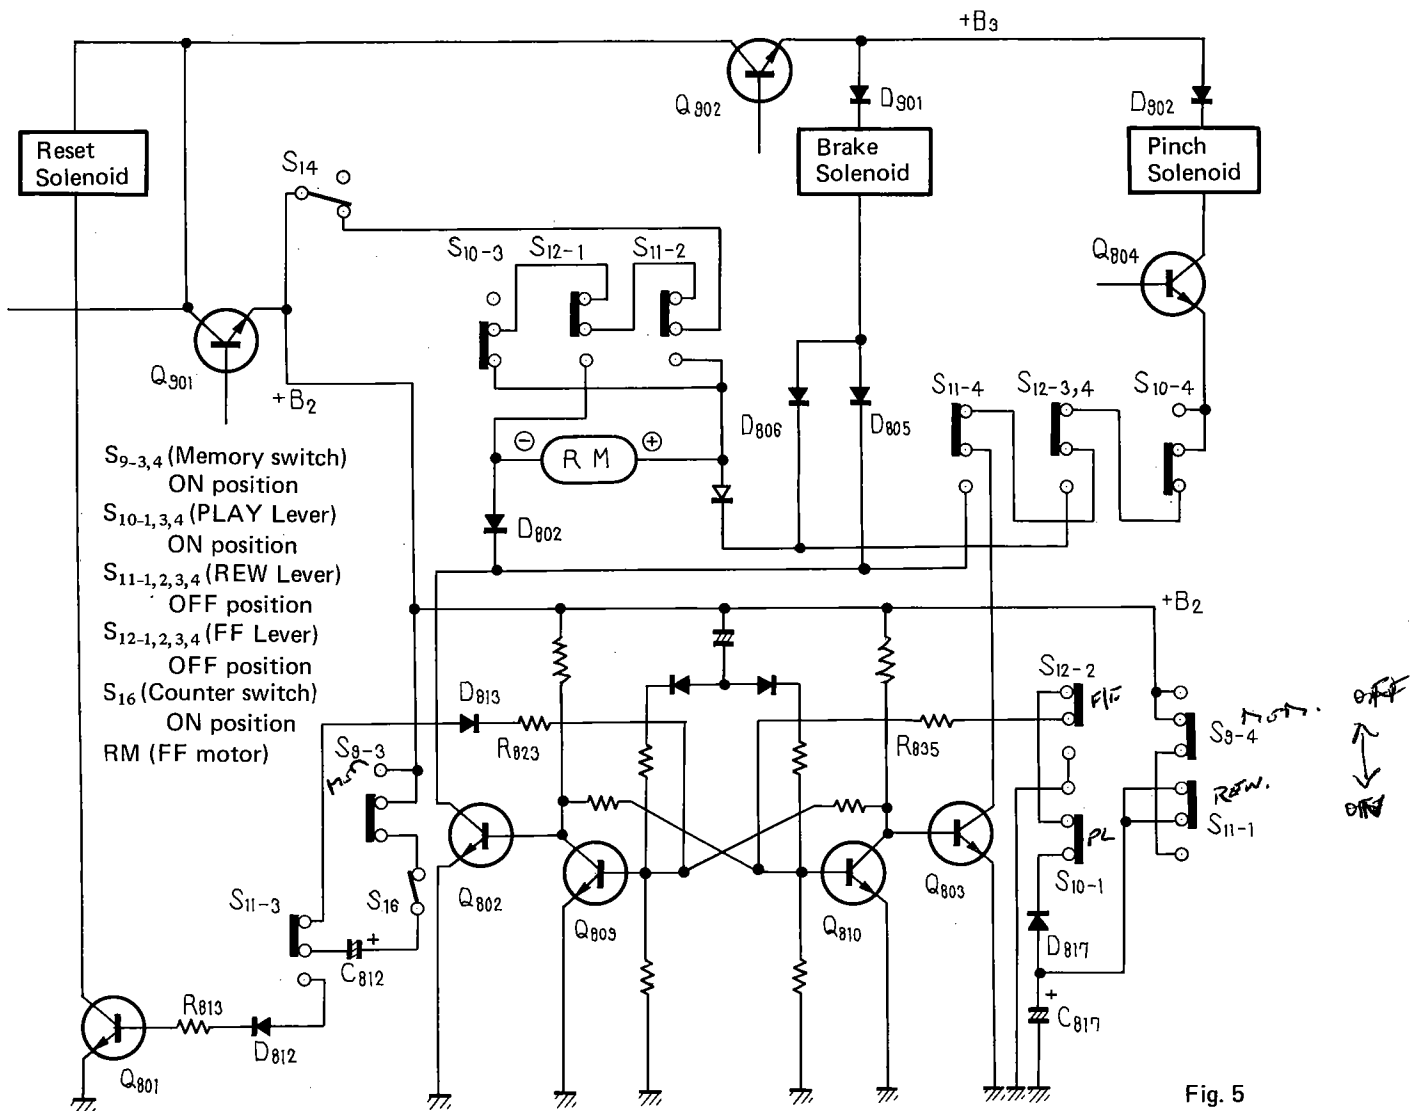

Fig. 5
2. Current is applied to the REW (FF) motor RM from  $+B_2$  by the route  $S_{11-2} - \text{RM} - D_{802} - S_{11-4} - Q_{803}$  and the tape rewind is performed.
3.5 MEMORY PLAY (Fig. 5)